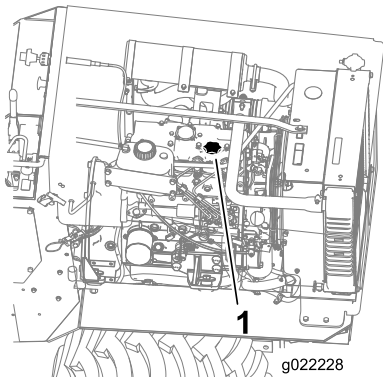

Figure 9
- If the oil level is low (below the bottom hole), clean around the oil filler cap and remove the cap (Figure 9).